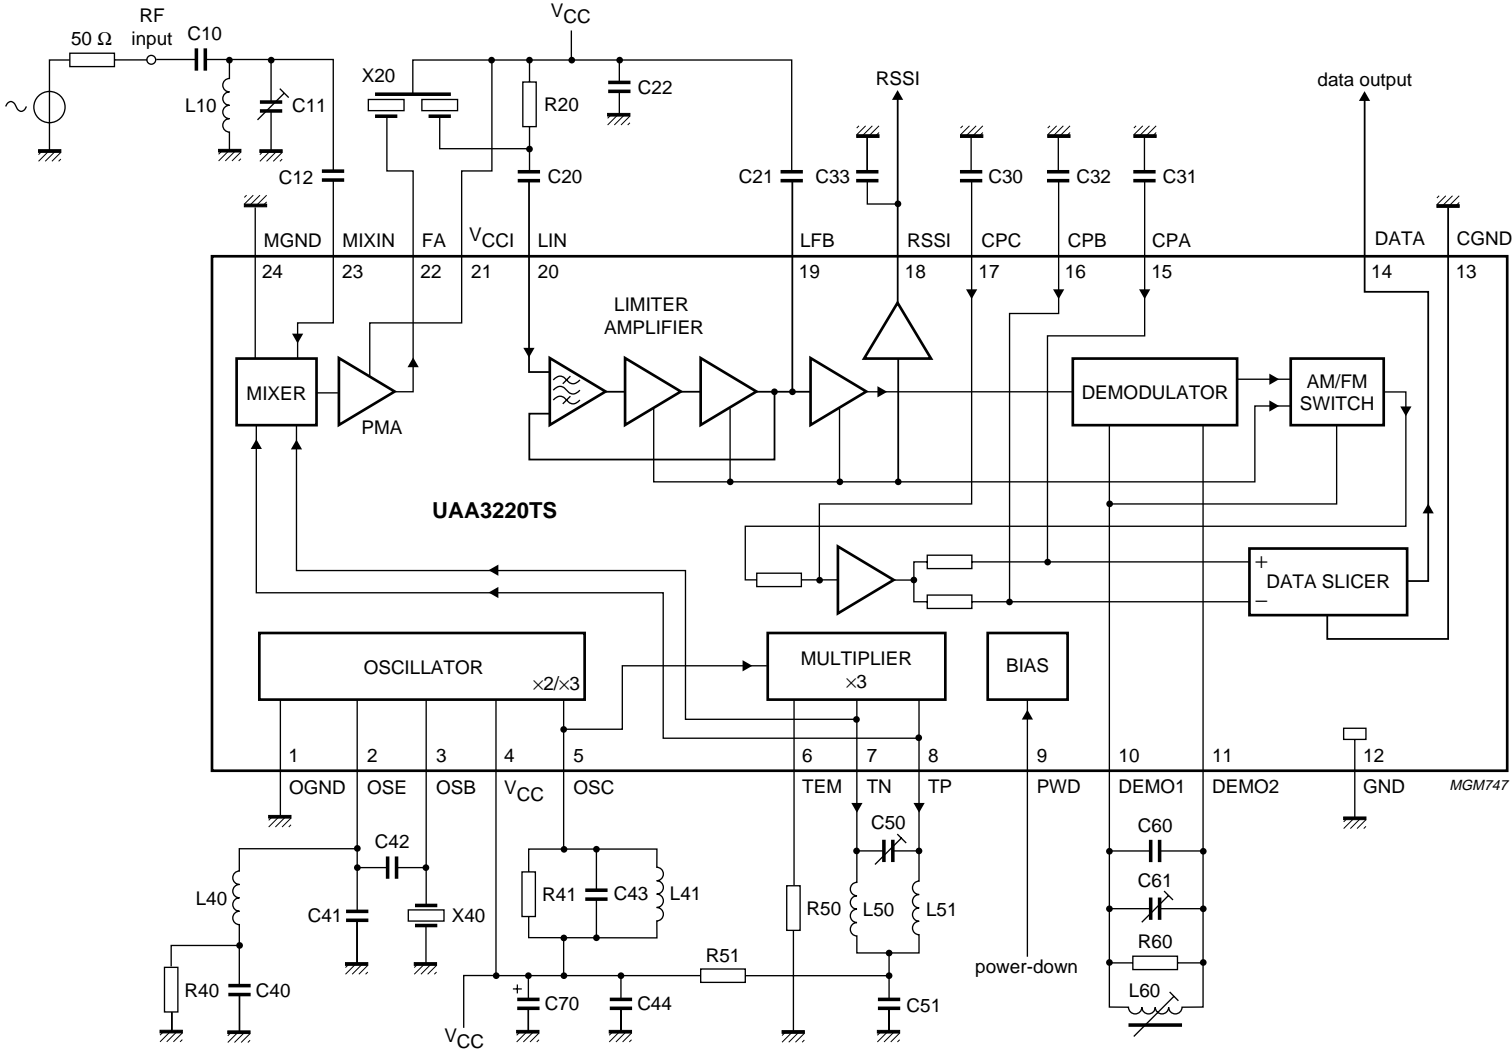

Fig.9 Application diagram (FSK reception).
- (1) For test circuit see Fig.9.
(1) For test circuit see Fig.9.
Table 4 Component list for Figs 9 and 10; $f_{i(RF)} = 433.92$ MHz
Table 5 Component list for Figs 9 and 10; $f_{i(RF)} = 868.35$ MHz